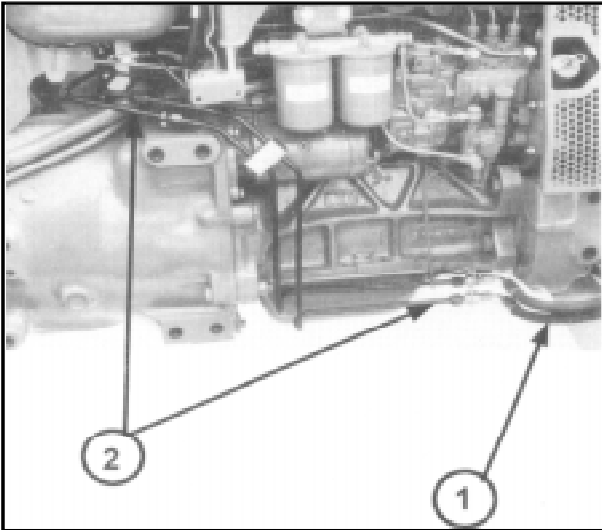

Figure 3
2. Clean the flexible steering hose to rigid pipe connections, Figure 3.